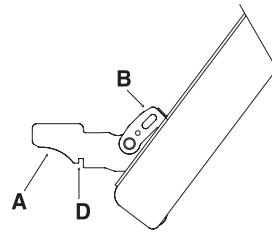

FIG. 3A
To make it easier to clean the inside of your oven, the oven door can be removed, by proceeding as follows (fig. 3A-3B):
- Open the door completely and lift the 2 levers "B" (fig. 3A);